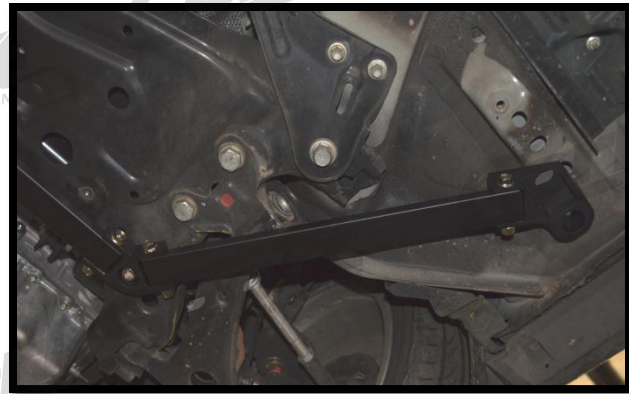

Figure 2d
- c) **Install brace bar #2** using the supplied 25mm long 8mm bolt and washer. Leave the hardware loose (shown in Figure 2d).
- c) After the RIV nut is installed you can install the brace bar #2 (shown in **Figure 2d**). Start the supplied 25mm long 8mm bolt and washer in the RIV nut and leave the hardware loose.